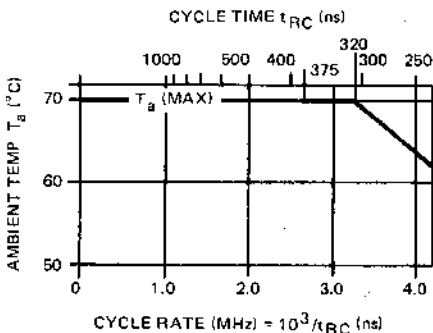
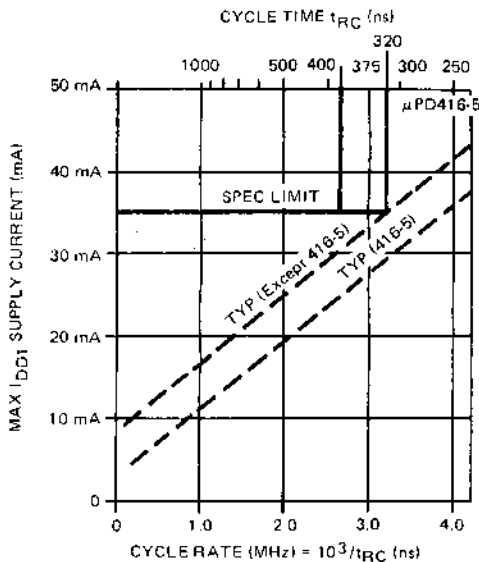

FIGURE 1
FIGURE 2
- Notes: ① T_a is specified here for operation at frequencies to t_{PC} × f_{RC} (min). Operation at higher cycle rates with reduced ambient temperatures and high power dissipation is permissible, however, provided AC operating parameters are met. See Figure 1 for derating curve.
- ② All voltages referenced to V_{SS}.
- ③ Output voltage will swing from V_{SS} to V_{CC} when activated with no current loading. For purposes of maintaining data in standby mode, V_{CC} may be reduced to V_{SS} without affecting refresh operations or data retention. However, the V_{OH} (min) specification is not guaranteed in this mode.
- ④ I_{DD1}, I_{DD3}, and I_{DD4} depend on cycle rate. See Figures 2, 3 and 4 for I_{DD} limits at other cycle rates.
- ⑤ I_{CC1} and I_{CC4} depend upon output loading. During readout of high level data V_{CC} is connected through a low impedance (135Ω typ) to data out. At all other times I_{CC} consists of leakage currents only.